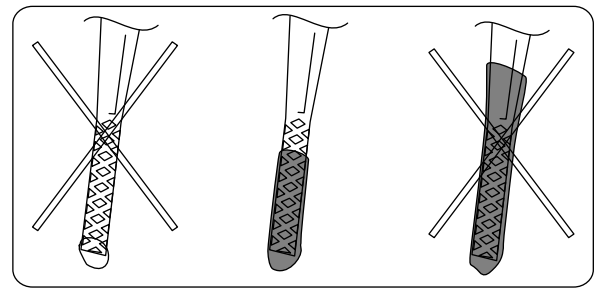

Figure 10
2. Remove the dipstick (Figure 10).
5. Remove the dipstick and read the oil level on the dipstick (Figure 10).